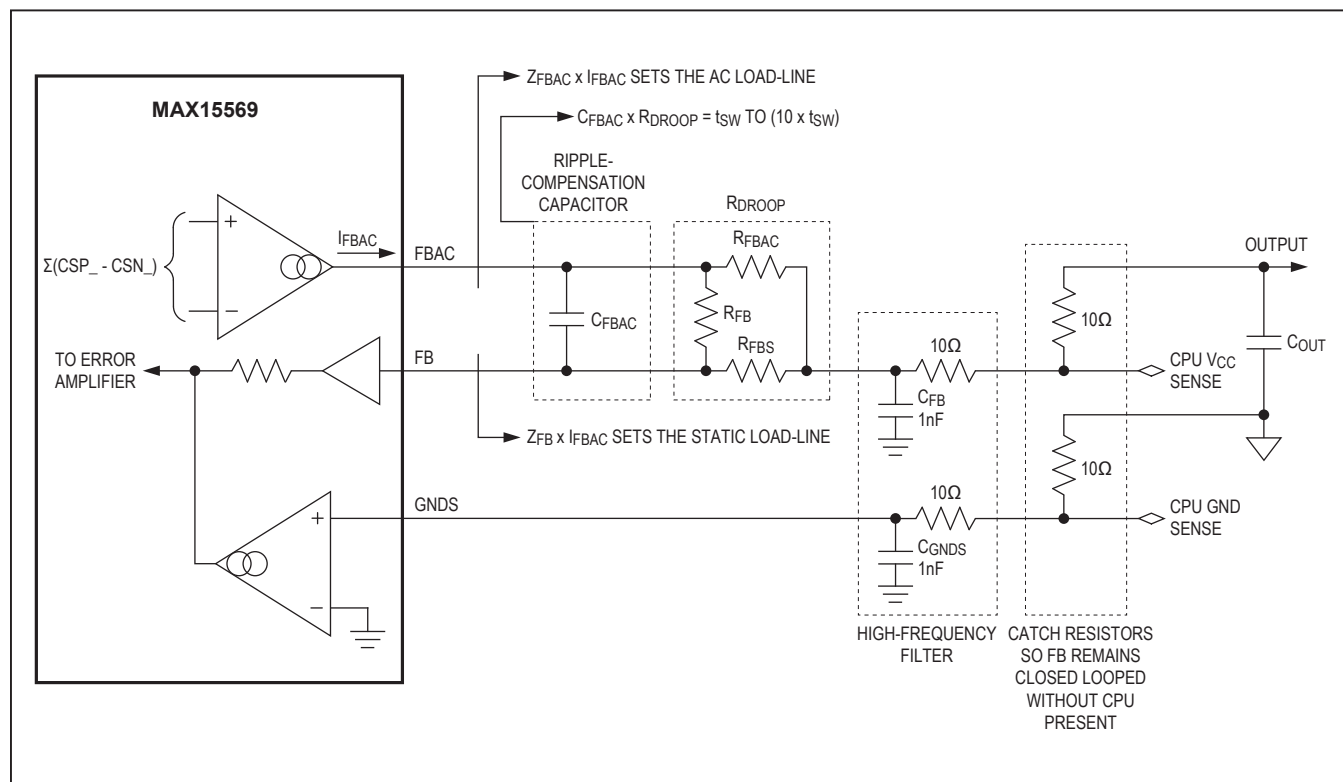

Figure 6. FB Network (Load-Line Control and Remote Sensing)
The device includes a transconductance amplifier for controlling the load-line regardless of the sense impedance value. The input signal of the amplifier is the sum of the current-sense voltages ( $V_{CSP1}$ ,  $V_{CSN1}$ , and  $V_{CSP2}$ ,  $V_{CSN2}$ ), which differentially sense the current-sense voltage. See Figure 6.
- The effective impedance ( $Z_{FB}$ ) between the feedback-sense input (FB) and the positive side of the feedback remote sense sets the static (DC) droop.
- An integrator on FB corrects for output ripple and ground-sense offset (see Figure 6).
\*See Figure 6.
The device includes differential, remote-sense inputs to eliminate the effects of voltage drops along the PCB traces and through the power pins of the processor. The feedback-sense node connects to the load-line resistor/capacitor network (RDROOP/CFBAC). The ground-sense (GNDS) input connects to an amplifier that adjusts the feedback voltage to counteract the voltage drop in the ground plane. Connect the load-line resistor (RDROOP) and ground-sense (GNDS) input directly to the remote-sense outputs of the processor, as shown in Figure 6. The correction range is bounded to less than ±200mV. The remote-sense lines draw less than ±0.5μA to minimize the offset errors.